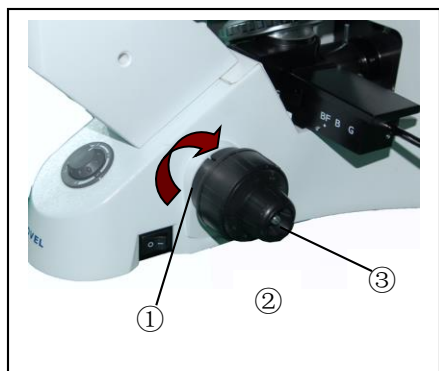

Fig 13
3.2.2 Adjusting the Tension Adjustment Collar (fig13)